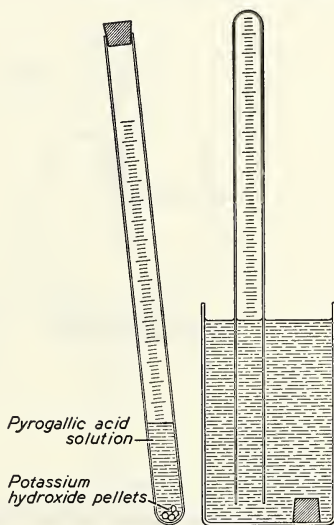

Fig. 30. Determining the composition of air by volume.
1. Pour approximately 60 ml. of a concentrated pyrogallic acid solution into a 200 millilitre gas-measuring tube (Fig. 30). Slant the tube, and slide a stick of potassium hydroxide about an inch long (or a dozen small pellets) into it. Quickly insert a stopper, and holding the stopper in place, invert the tube.